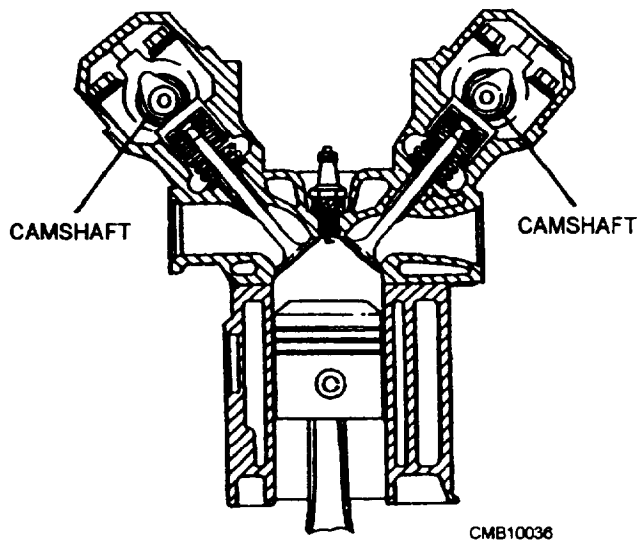

Figure 2-16.—Double overhead camshaft configuration.
- **DOUBLE OVERHEAD CAMSHAFT** (fig. 2-16)—When the double overhead camshaft is used, the intake and the exhaust valves each operate from separate camshafts directly through the lifters. It provides excellent engine performance and is used in more expensive automotive applications.